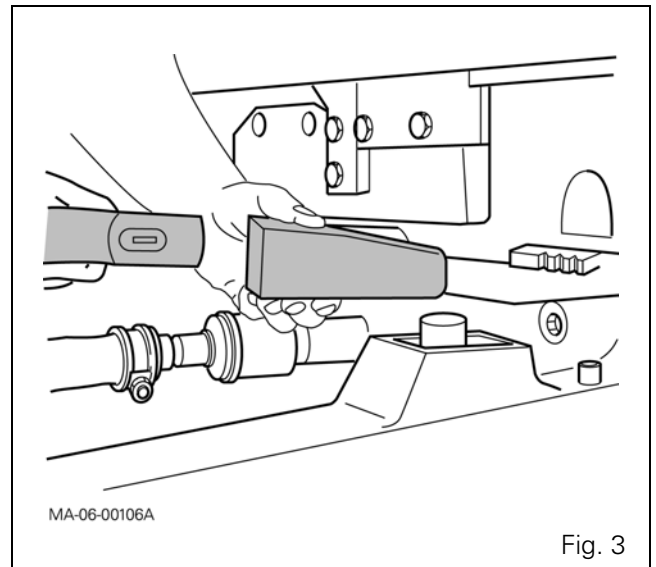

Fig. 3
- between the frame and the front axle (Fig. 3)